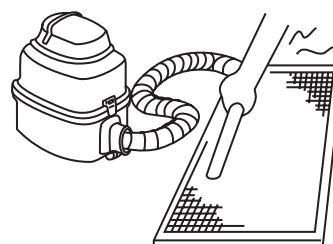

fig.9-3
- The air-in side should face up when using vacuum cleaner. (See fig.9-3)